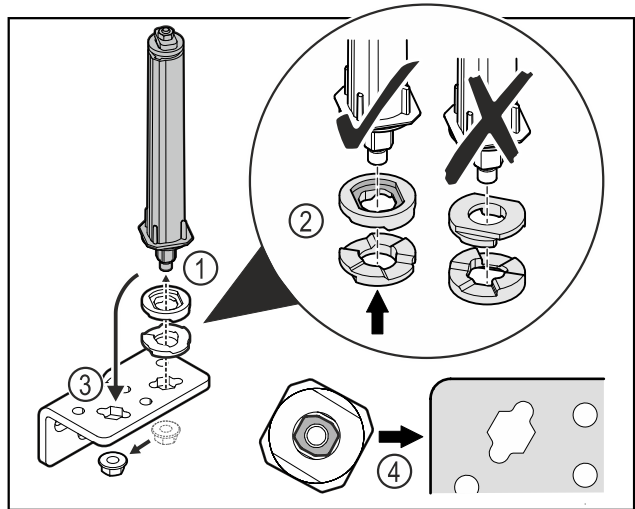

Fig. 36
- ▶ Loosen the nut and remove the door closing system Fig. 36 (1).
- ▶ Observe the correct alignment of the height adjustment washers Fig. 36 (2).
- ▶ Put the door closing system in the hinge fix in place with the nut Fig. 36 (3).
- ▶ Observe the correct alignment of the door closing system when doing so Fig. 36 (4).